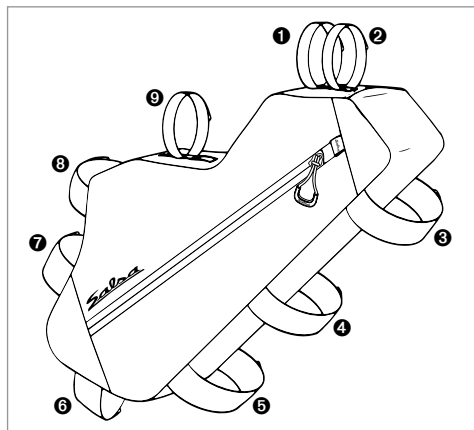

Figure 1
3. Fasten hook and loop straps 1 & 2 (fig. 1) at the toptube first. Then work in a clockwise direction and join straps 3–8 to the frame.